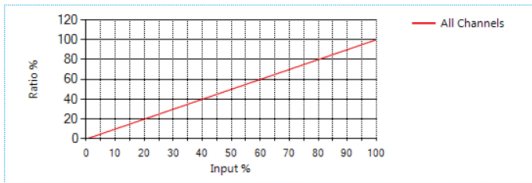

Figure 10: INT Mapping graph for all channels
*Tip: Scroll to the bottom of the window to see graphs (shown in Figures 10 & 11) of the current INT mapping configuration.*